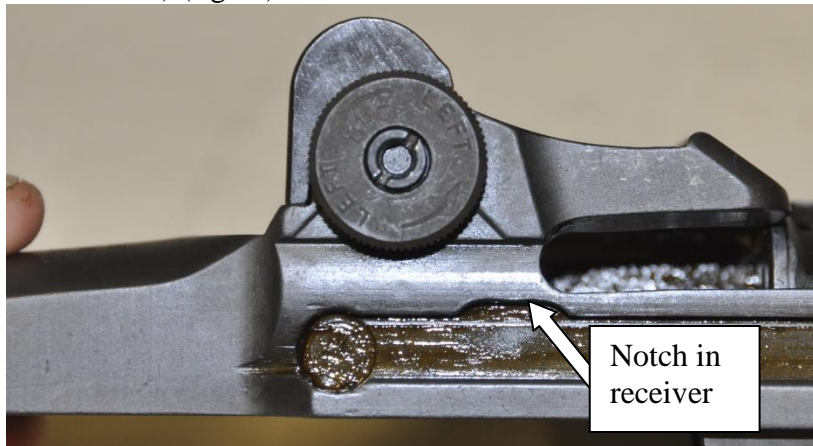
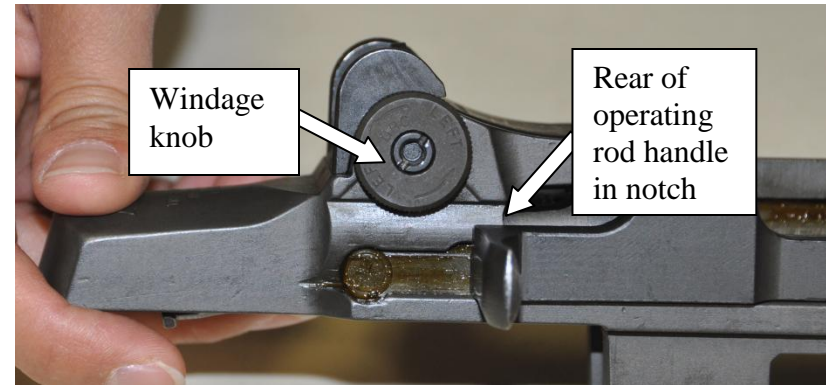

Figure 19. Notch on receiver
Figure 20. Handle under forward edge of windage knob
- 5) With the receiver facing upright, pull the operating rod to the rear with slight upward force until it engages the notch (fig 19) in the receiver (the rear of the handle will be directly under the forward edge of the windage knob) (fig 20).